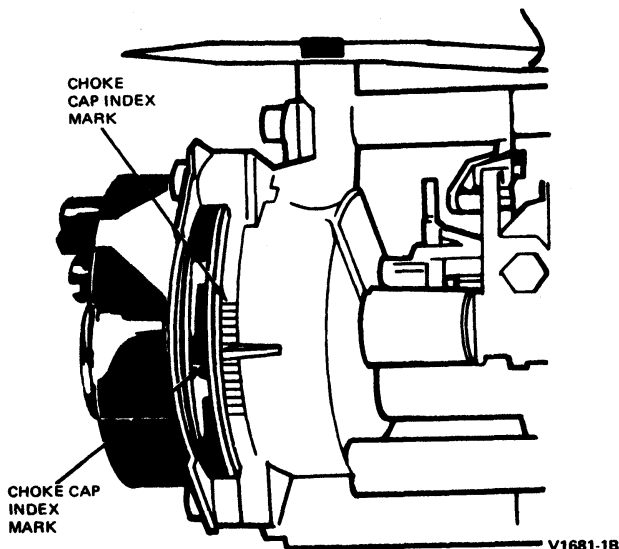

FIG. 20 Automatic Choke Thermostatic Spring Housing Adjustment
5. Rotate choke cap to specified setting. Hold cap at setting during the riveting operation (Fig. 20).